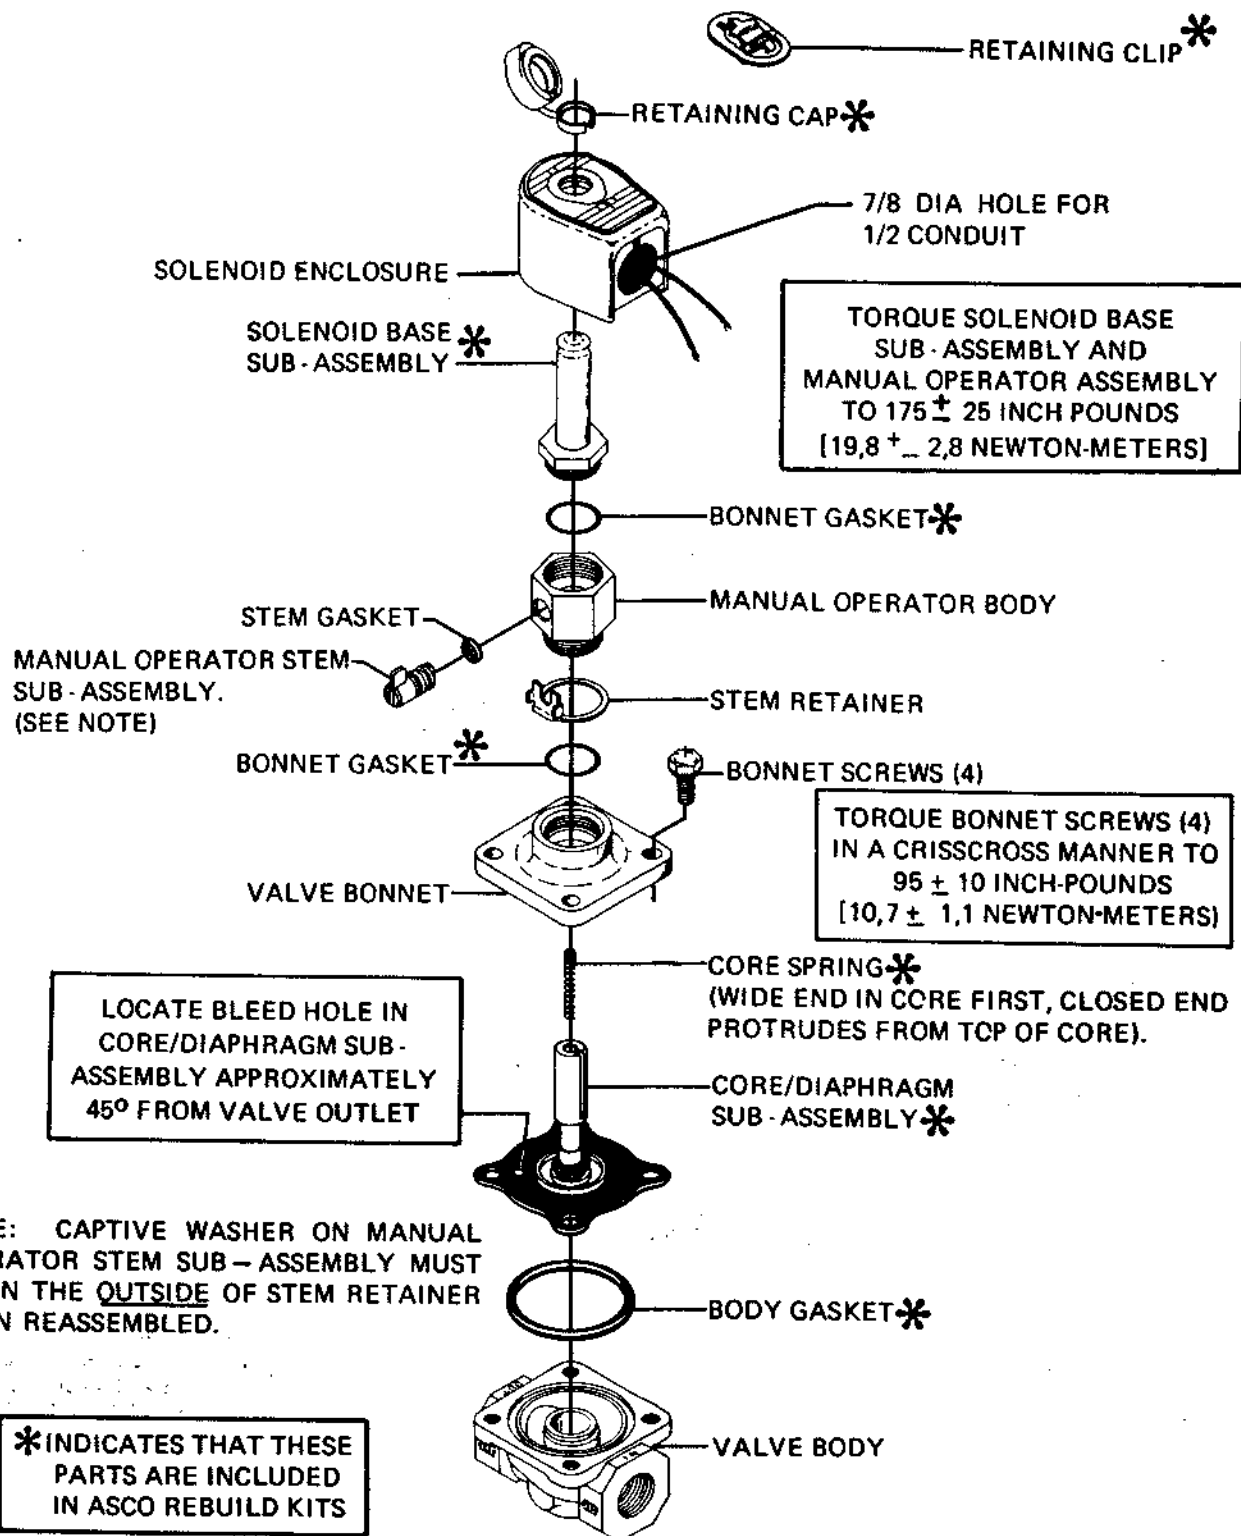

Figure 3. Bulletin 8210 - Manual Operator
**NOTE:** For valves with a manual operator (Suffix MO in catalog number) refer to Figure 3. For standard valves refer to Figure 2.
3. Remove bonnet screws (4), valve bonnet, core spring, core/diaphragm sub-assembly, and body gasket. **CAUTION:** Do not damage or distort hanger spring between core/diaphragm sub-assembly.
7. Replace valve bonnet and bonnet screws (4). Torque bonnet screws (4) in a crisscross manner to  $95 \pm 10$  inch-pounds ( $10,7 \pm 1,1$  newton-meters).